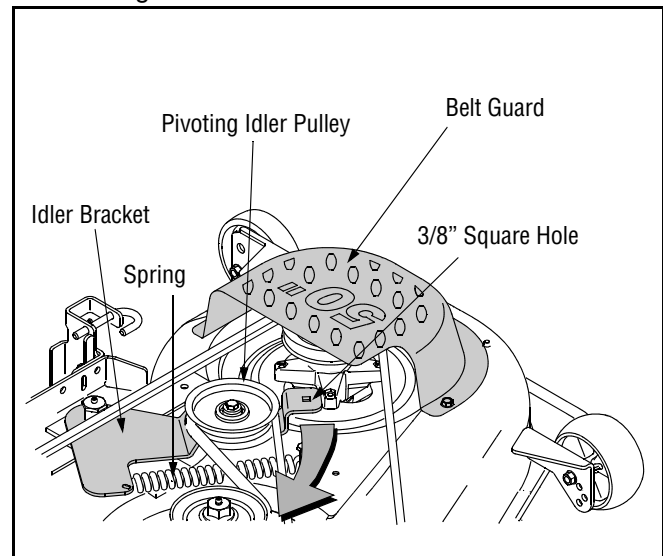
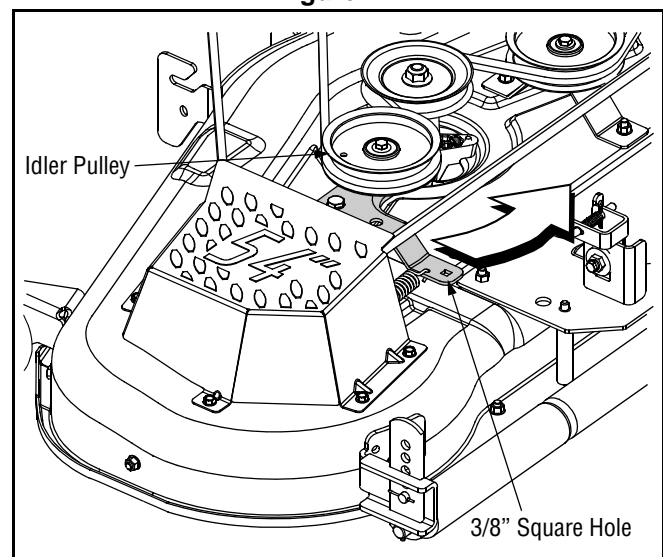

Figure 21
Figure 22
- To ease in removing the belt in later steps, loosen, but do not remove, the bolt which secures the pivoting idler pulley to the idler bracket. See Figure 21.
- Insert a 3/8"-drive ratchet wrench (set to *tighten*, Model SLT 1550 or set to *loosen*, Model SLT 1554) into the square hole found in the idler bracket on the left side of the deck's surface. See Figure 21 (Model SLT 1550) or Figure 22 (Model SLT 1554).